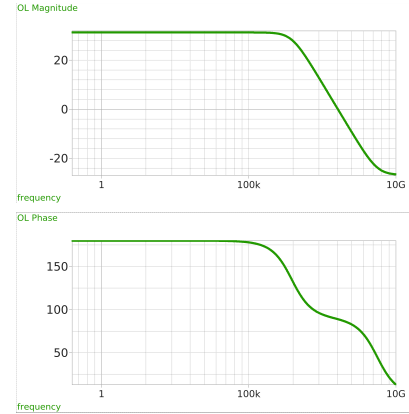

Figure 9: Xschem testbench inverter\_tb\_ac\_ol (open-loop ac characterisation on inverter).
- `inverter_tb_ac_ol.sch`, open-loop ac characterisation (see Figure 9),